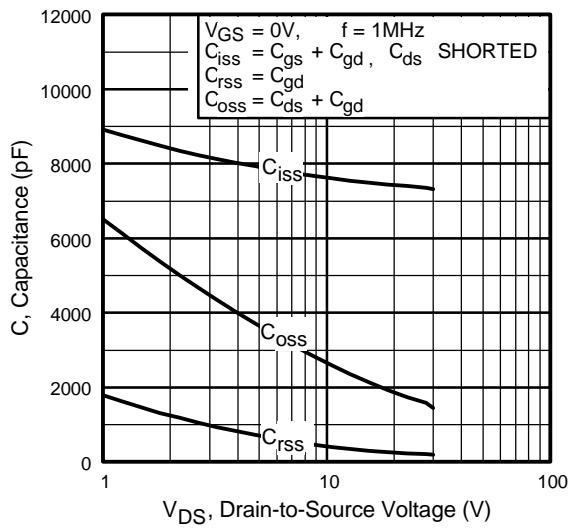

Fig 5. Typical Capacitance Vs.
| C_{rss} | Reverse Transfer Capacitance | — | 240 | — | | $f = 1.0\text{MHz}$, See Fig. 5 ⑦ |